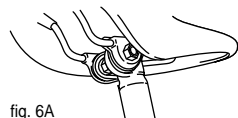

fig. 6A
Look at figures 6A, B and C, and determine which one illustrates the type of saddle attachment on your bicycle.
- 2. Front and back adjustment.** Loosen the saddle clamping mechanism (see fig. 6A, B or C) and slide the saddle back or forward on its rails. Start with the saddle clamped in about the middle, then adjust forward or back until you find the position which is most comfortable for you. Then, retighten the saddle clamping mechanism as tight as you can.